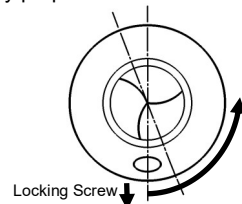

Fig. 4
- Remove locking screw from the bottom of the **front cover**. (Fig.4)
- Hold the main body, turn the front cover anti-clockwise. Note the front cover position for re-assembly purposes. Lift cover off. (Fig. 4)